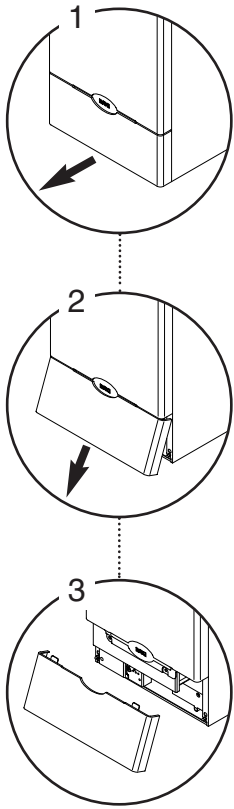

Fig. 95
2. Remove the lower door panel by following the sequence of diagrams (Fig 95).